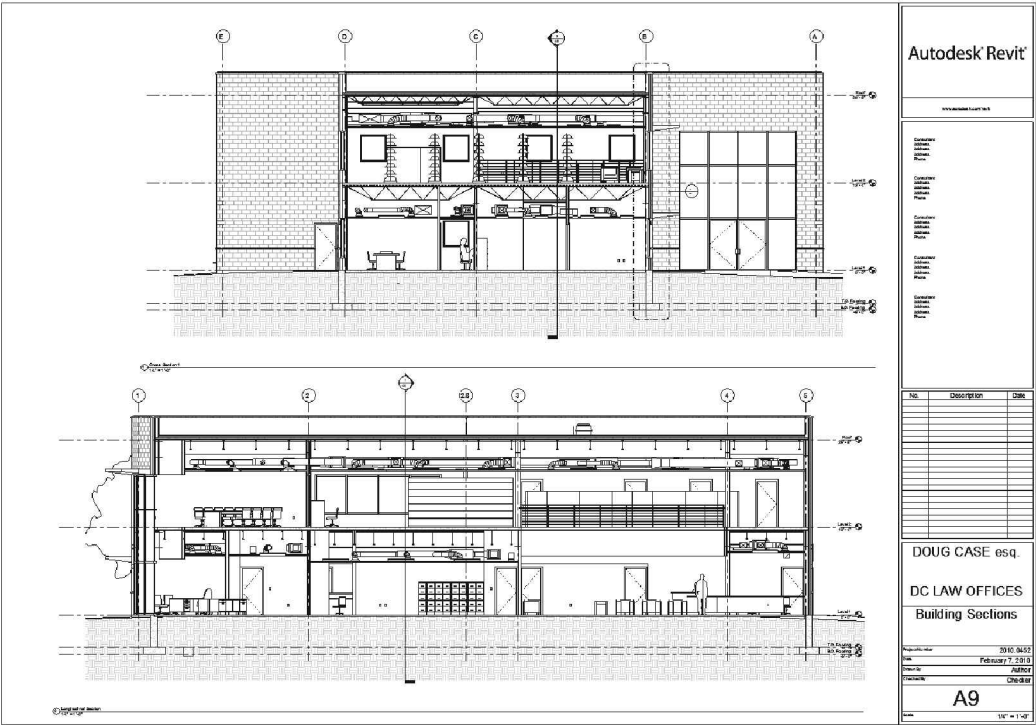

FIGURE 16-1.10 Sheet A9 - Building Sections
25. Add the two building sections as shown in **Figure 16-1.10**.